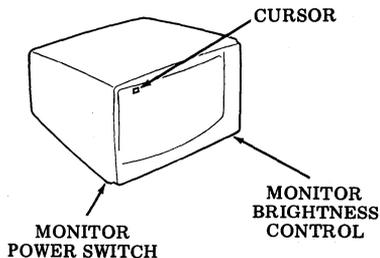

Fig. 8
- (c) Adjust monitor brightness control to desired level and check cursor (Fig. 8). Troubles No. 2, 3 and 4 (5.07).